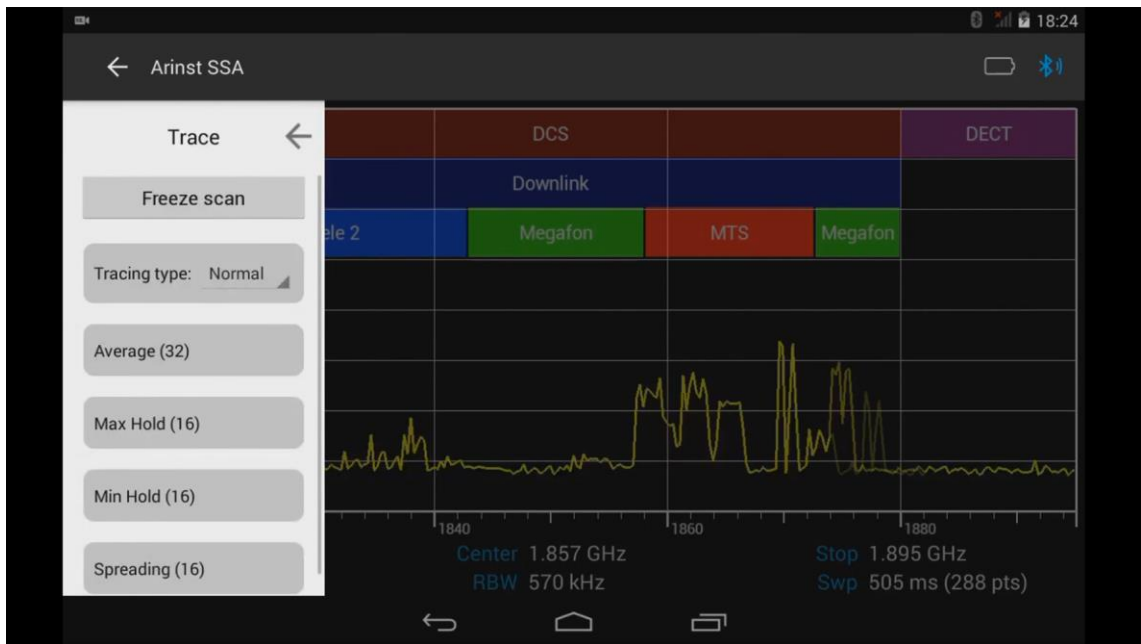

Figure 53 – Menu for processing the displayed measurement results
8.9.1. From the main menu of the control program, enter the menu of statistical and mathematical processing of the displayed data **Trace**, as shown in Figure 53.